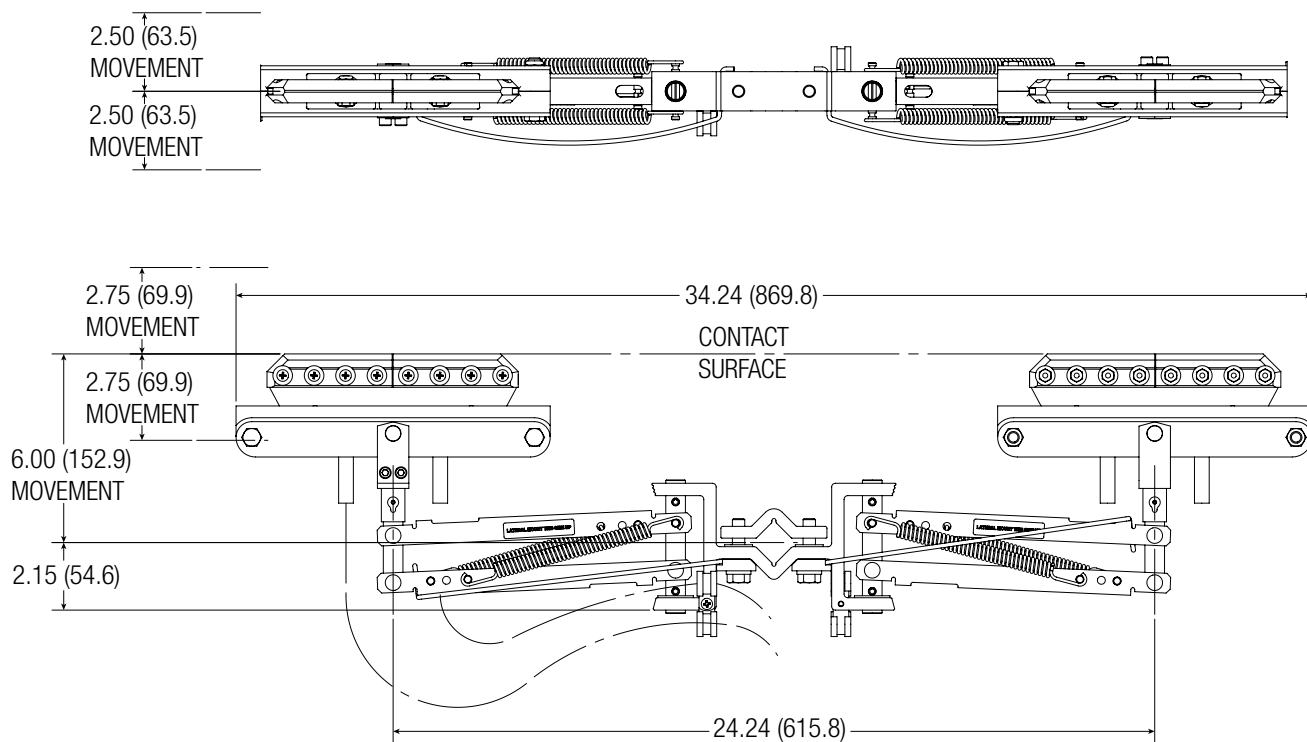

Figure 14-2 - XA-HB2C-600T-42-LATL
14.4.1 Instructions are given looking down at the collector from above as viewed in **Figure 14-2**.